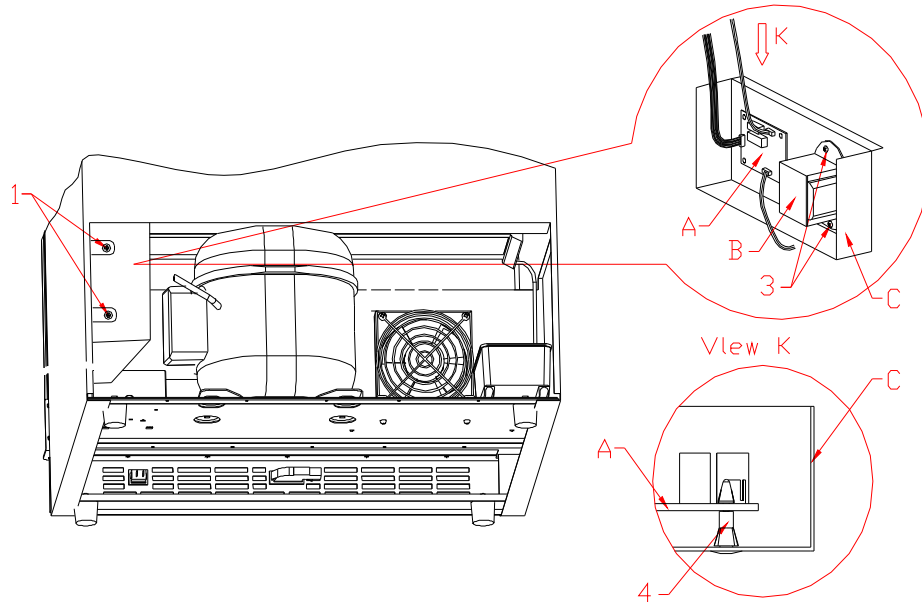
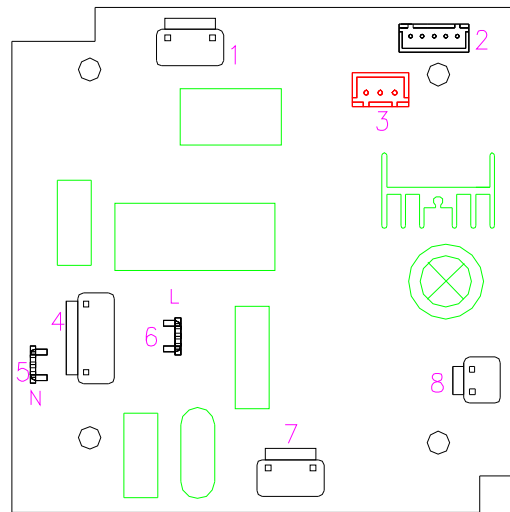

Fig.21
Fig.22
model 2: PCB board divide into 2 blocks, the main PCB board is in the electrical box( Fig.22),the other power PCB board is in the left of the compressor’s box with the transformer. ( Fig.21)
- a. Remove the two screw(1) that fixing the electrical box for power PCB ( Fig.21).
- b. Remove the the electrical box(C) for power PCB ( Fig.21).
- c. Unplug all the connector, press the 4 studs (4) one by one. Updraw the power PCB board(A), and draw off the PCB board, , replace it with the same model's PCB board. ( Fig.21) (Vlew K)
- d. Remove two fixing screw(3) of the transformer ( B ) , take off the tranformer ( B ) for replacement. ( Fig.35),Divide version control panel connections ( Fig.21)
Diagram of the power PCB (Fig.22)